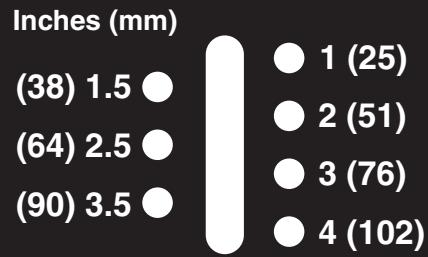

Figure 6
4. Set deck to desired cutting height (Figure 6).